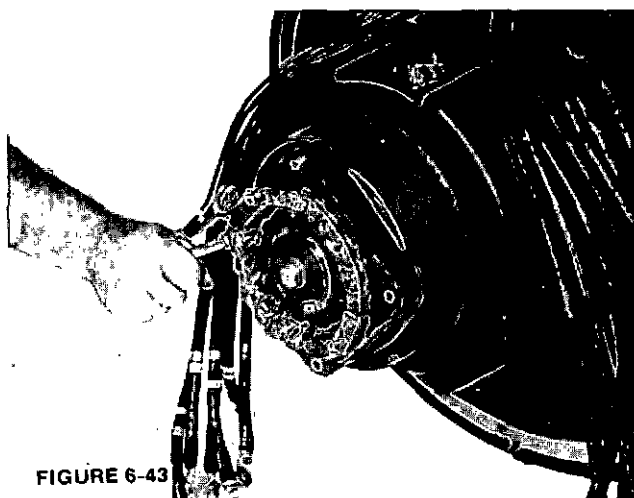

FIGURE 6-43
4. Install the PMG stator on the mounting pad and secure with 4 capscrews. Torque to 4 ft-lb. (Figure 6-43.)